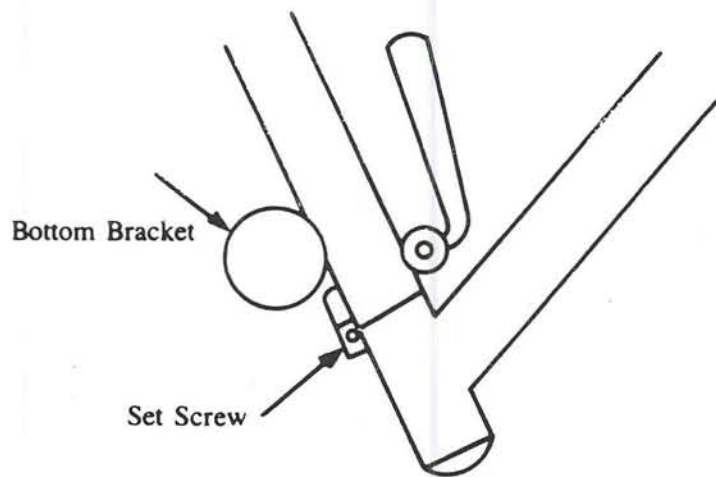

Figure 6
- Locate the special set screw located below the bottom bracket shell and behind the chain ring (see Figure 6 below).